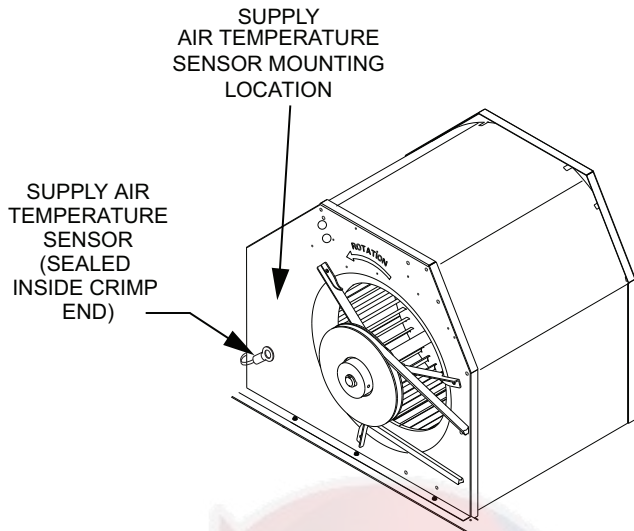
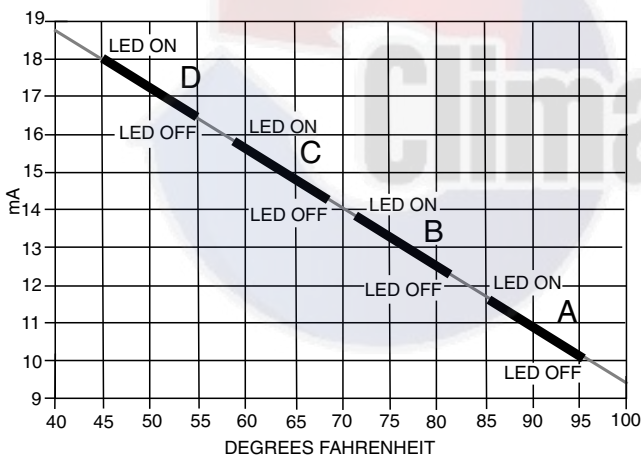
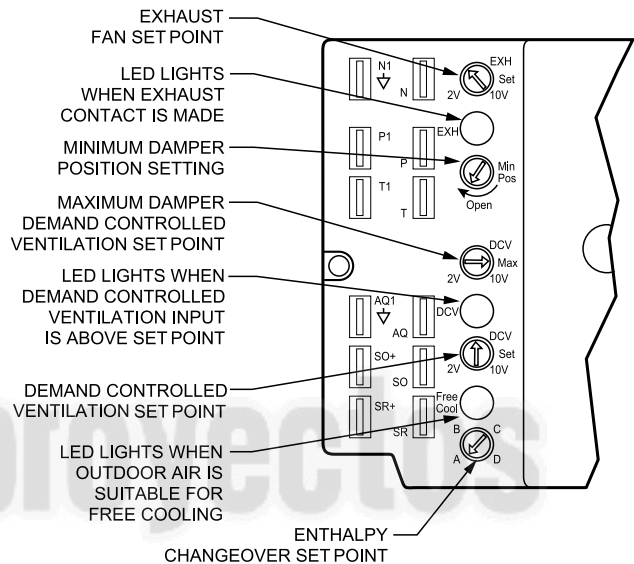
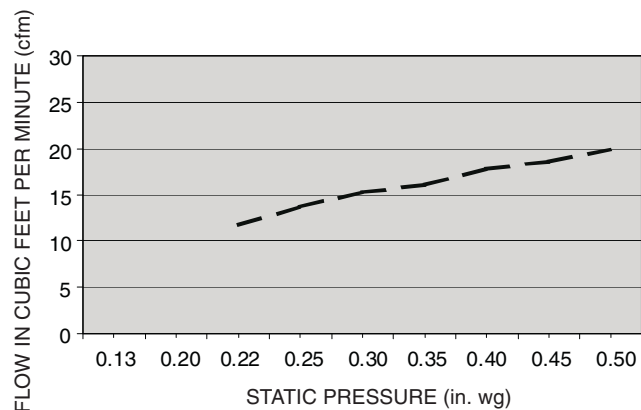

Fig. 53 — Supply Air Sensor Location
Fig. 54 — Outside Air Temperature Changeover Setpoints
Fig. 55 — EconoMiSer IV Controller Potentiometer and LED Locations
Fig. 56 — Outdoor-Air Damper Leakage
The outdoor air temperature sensor (HH57AC074) is a 10 to 20 mA device used to measure the outdoor-air temperature. The outdoor-air temperature is used to determine when the EconoMi\$er IV system can be used for free cooling. The sensor is factory-installed on the EconoMi\$er IV in the outdoor airstream. (See Fig. 53.) The operating range of temperature measurement is 40°F to 100°F (4°C to 38°C). See Fig. 54.
The supply air temperature sensor is a 3 K thermistor located at the inlet of the indoor fan. (See Fig. 53.) This sensor is factory installed. The operating range of temperature measurement is 0°F to 158°F (-18°C to 70°C).
The standard controller is shipped from the factory configured for outdoor dry bulb changeover control. The outdoor air and supply air temperature sensors are included as standard. For this control mode, the outdoor temperature is compared to an adjustable setpoint selected on the control. If the outdoor-air temperature is above the setpoint, the EconoMiSer IV system will adjust the outside air dampers to minimum position. If the outdoor-air temperature is below the setpoint, the position of the outside air dampers will be controlled to provide free cooling using outdoor air. When in this mode, the LED next to the free cooling setpoint potentiometer will be on. The changeover temperature setpoint is controlled by the free cooling setpoint potentiometer located on the control. (See Fig. 54 and Fig. 55.) The scale on the potentiometer is A, B, C, and D. See Fig. 56 for the corresponding temperature changeover values.
turn the enthalpy setpoint potentiometer fully clockwise to the D setting. (See Fig. 55.)
The exhaust setpoint will determine when the exhaust fan runs based on damper position (if accessory power exhaust is installed). The setpoint is modified with the Exhaust Fan Setpoint (EXH SET) potentiometer. See Fig. 55. The setpoint represents the damper position above which the exhaust fans will be turned on. When there is a call for exhaust, the EconoMiSer IV controller provides a 45 ± 15 second delay before exhaust fan activation to allow the dampers to open. This delay allows the damper to reach the appropriate position to avoid unnecessary fan overload.
There is a minimum damper position potentiometer on the EconoMiSer IV controller. See Fig. 55. The minimum damper position maintains the minimum airflow into the building during the occupied period.
3. Ensure that the factory-installed jumper is in place across terminals P and P1. If remote damper positioning is being used, make sure that the terminals are wired according to Fig. 54 and that the minimum position potentiometer is turned fully clockwise.